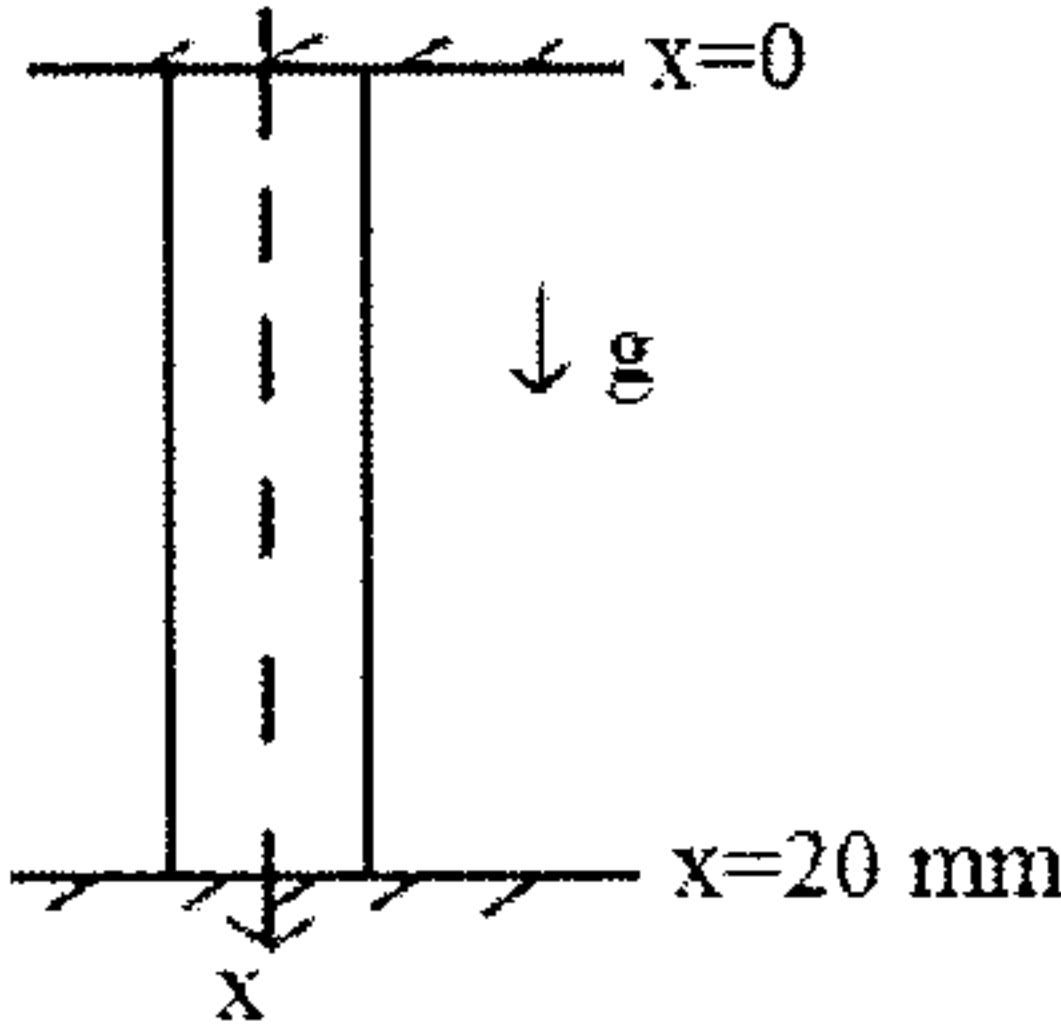

Fig.1
- 1. Using Raleigh-Ritz method find the displacement of the mid point of the rod shown in fig.1. Take $E=200 \text{ GPa}$, $A=40\text{mm}^2$ and density of the rod material as 7800 kg/m^3 . 14 M